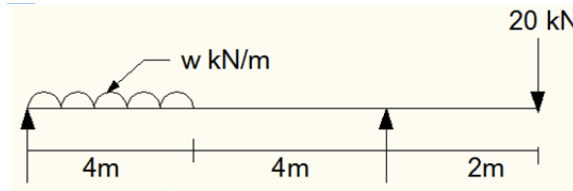

Figure 2
4. (a) For the beam loaded as shown in Figure 2, calculate the value of U.D.L of  $w$  kN/m so that B.M at C is 50 kNm. Draw the S.F and B.M diagrams for this beam for the calculated value of  $w$ . Locate the point of inflexion, if any. [7M]